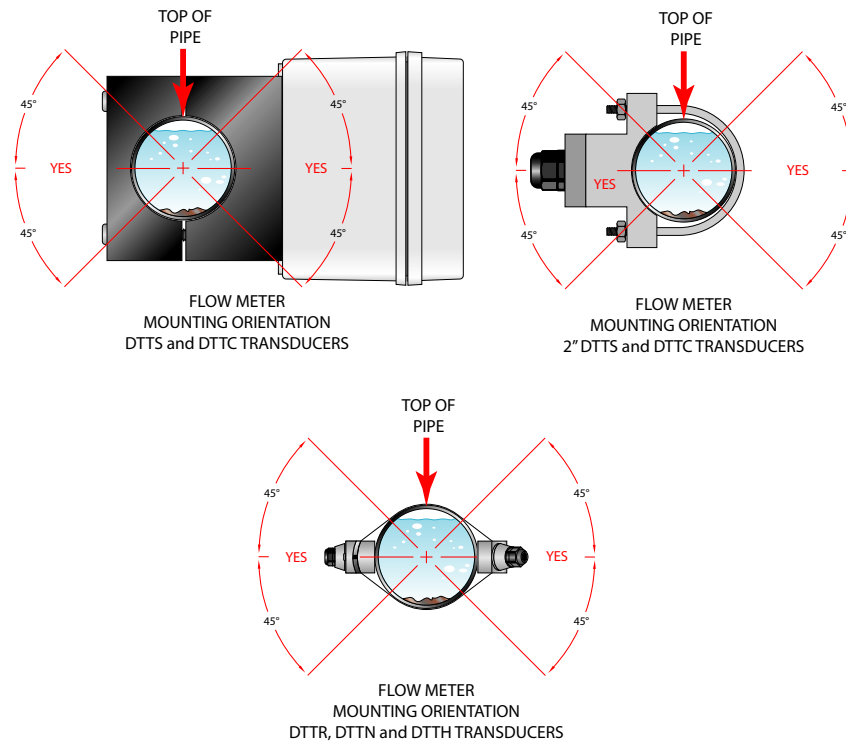

Figure 5: Transducer mounting orientations
2. The pipe surface, where the transducers are to be mounted, must be clean and dry. Remove scale, rust or loose paint to ensure satisfactory acoustic conduction. Wire brushing the rough surfaces of pipes to smooth bare metal may also be useful. Plastic pipes do not require preparation other than cleaning. On horizontal pipe, choose a mounting location within approximately 45 degrees of the side of the pipe. See *Figure 5 on page 9*. Locate the flow meter so that the pipe will be completely full of liquid when flow is occurring in the pipe. Avoid mounting on vertical pipes where the flow is moving in a downward direction.
2. The pipe surface, where the transducers are to be mounted, must be clean and dry. Remove scale, rust or loose paint to provide satisfactory acoustic conduction. Wire brushing the rough surfaces of pipes to smooth bare metal may also be useful. Plastic pipes do not require preparation other than cleaning. On horizontal pipe, choose a mounting location within approximately 45 degrees of the side of the pipe. See *Figure 5*. Locate the flow meter so that the pipe will be completely full of liquid when flow is occurring in the pipe. Avoid mounting on vertical pipes where the flow is moving in a downward direction.